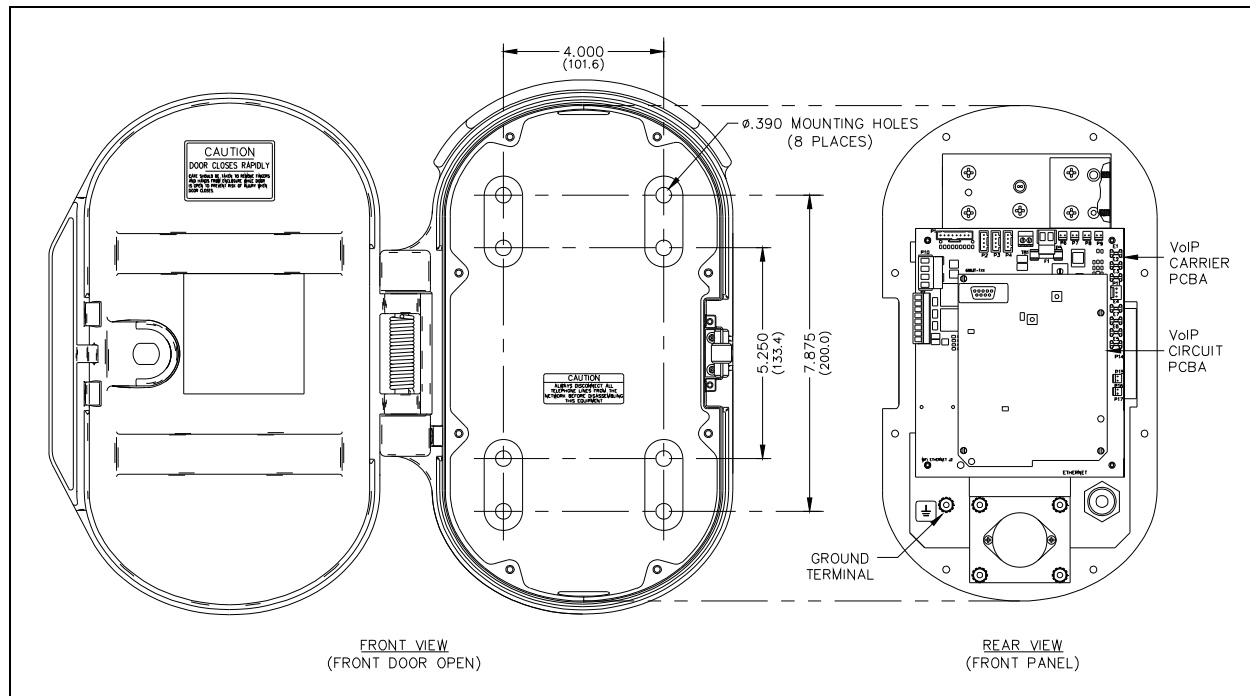

Figure 5. Model 226-700 Mounting Details
2. There are eight mounting holes in the back of the enclosure in two 4-hole patterns. Determine which hole pattern will be used for mounting. See Figure 5.